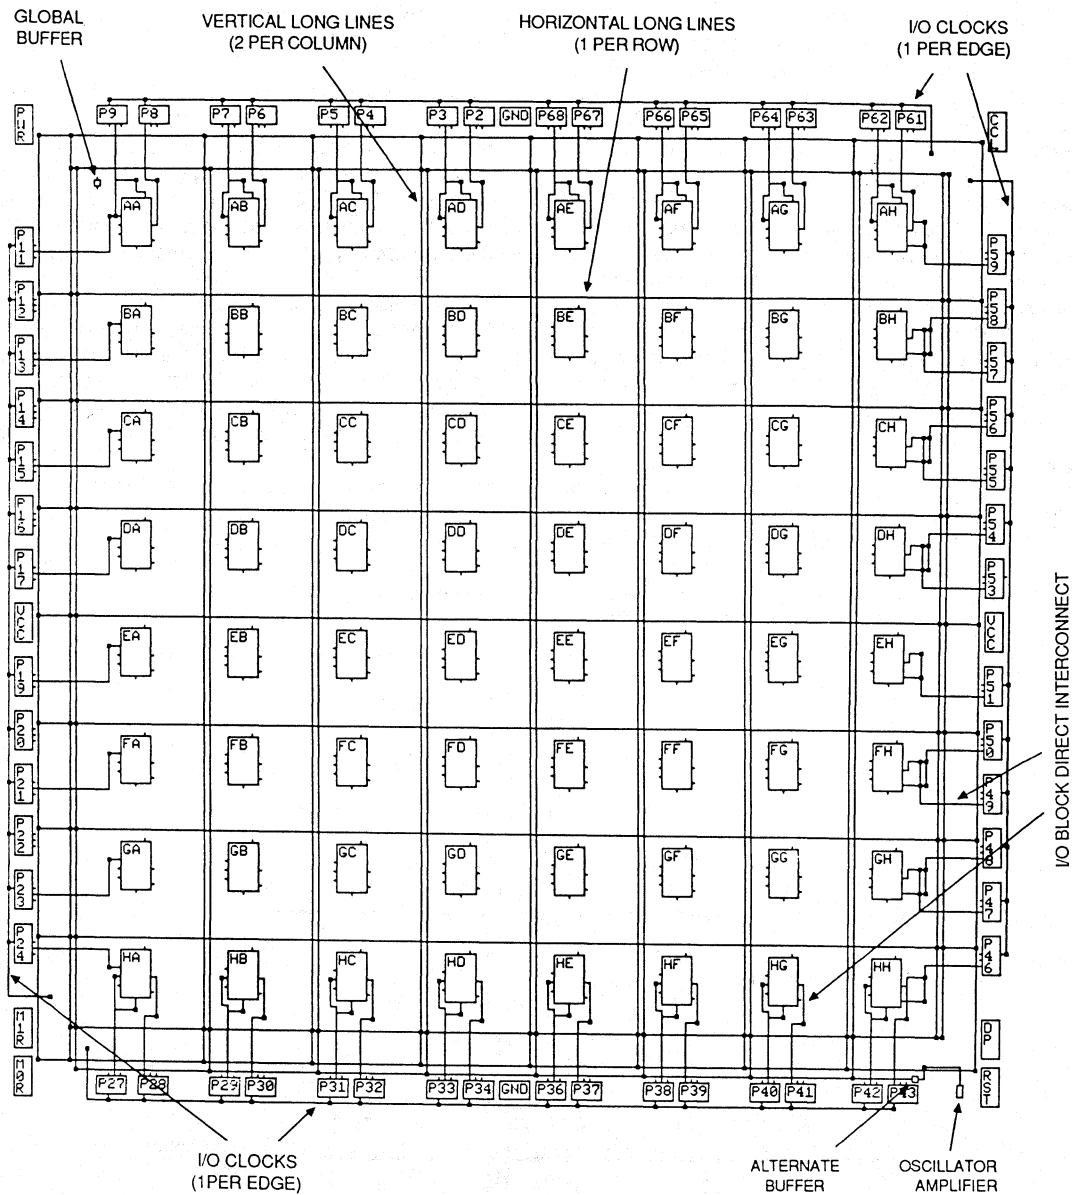

Figure 8b. XC2064 Longlines, I/O Clocks, I/O Direct Interconnect
Alternatively, these Longlines can be driven by a logic or I/O block on a column by column basis. This capability provides a common, low-skew clock or control line within each column of logic blocks. Interconnections of these Longlines are shown in Figure 8b.
Direct interconnect, shown in Figure 9, provides the most efficient implementation of networks between adjacent logic or I/O blocks. Signals routed from block to block by means of direct interconnect exhibit minimum interconnect propagation and use minimum interconnect resources. For each Configurable Logic Block, the X output may be connected directly to the C or D inputs of the CLB above and to the A or B inputs of the CLB below it. The Y output can use direct interconnect to drive the B input of the block immediately to its right. Where logic blocks are adjacent to I/O blocks, direct connect is provided to the I/O block input (I) on the left edge of the die, the output (O) on the right edge, or both on I/O blocks at the top and bottom of the die. Direct interconnections of I/O blocks with CLBs are shown in Figure 8b.
Figure 8b also shows the location of an internal high speed inverting amplifier which may be used to implement an on-chip crystal oscillator. It is associated with the auxiliary buffer in the lower right corner of the die. When the oscillator is configured by MAKEBITS and connected as a signal source, two special user IOBs are also configured to connect the oscillator amplifier with external crystal oscillator components as shown in Figure 10. A divide by two option is available to assure symmetry. The oscillator circuit becomes active in order to allow the oscillator to stabilize. Actual internal connection is delayed until completion of configuration. In Figure 10, the feedback resistor R1, between the output and input, biases the amplifier at threshold. The inversion of the amplifier, together with the R-C networks and an AT-cut series resonant crystal, produce the 360-degree phase shift of the Pierce oscillator. A series resistor R2 may be included to add to the amplifier output impedance when needed for phase-shift control, crystal resistance matching, or to limit the amplifier input swing to control clipping at large amplitudes. Excess feedback voltage may be corrected by the ratio of C2/C1. The amplifier is designed to be used from 1 MHz to about one-half the specified CLB toggle frequency. Use at frequencies below 1 MHz may require individual characterization with respect to a series resistance. Crystal oscillators above 20 MHz generally require a crystal which operates in a third overtone mode, where the fundamental frequency must be suppressed by an inductor across C2, turning this parallel resonant circuit to double the fundamental crystal frequency, i.e., 2/3 of the desired third harmonic frequency network. When the oscillator inverter is not used, these IOBs and their package pins are available for general user I/O.